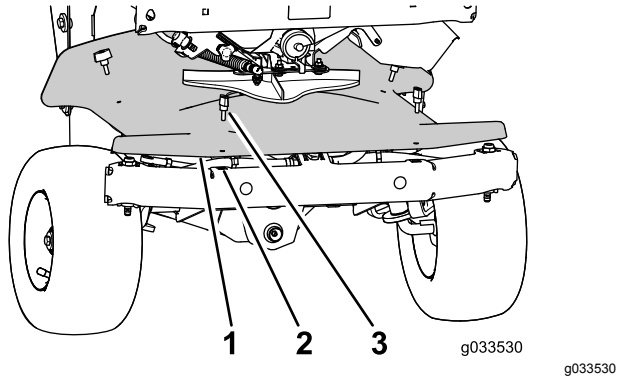

Figure 95
- A. Remove the 4 thumb screws that secure the front cover (below the impeller) to the chassis and remove the cover (Figure 95).